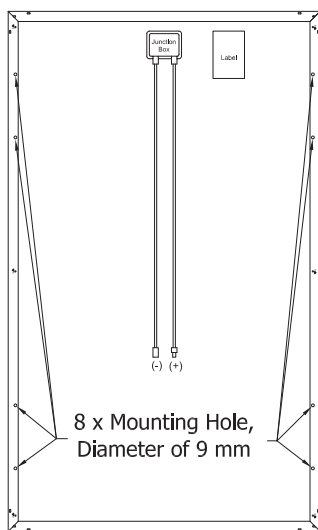

Fig 1.1
- Each long side frame has 4 mounting holes with 9 mm diameter used to secure the module to supporting structure, as shown in Figure 1.1.